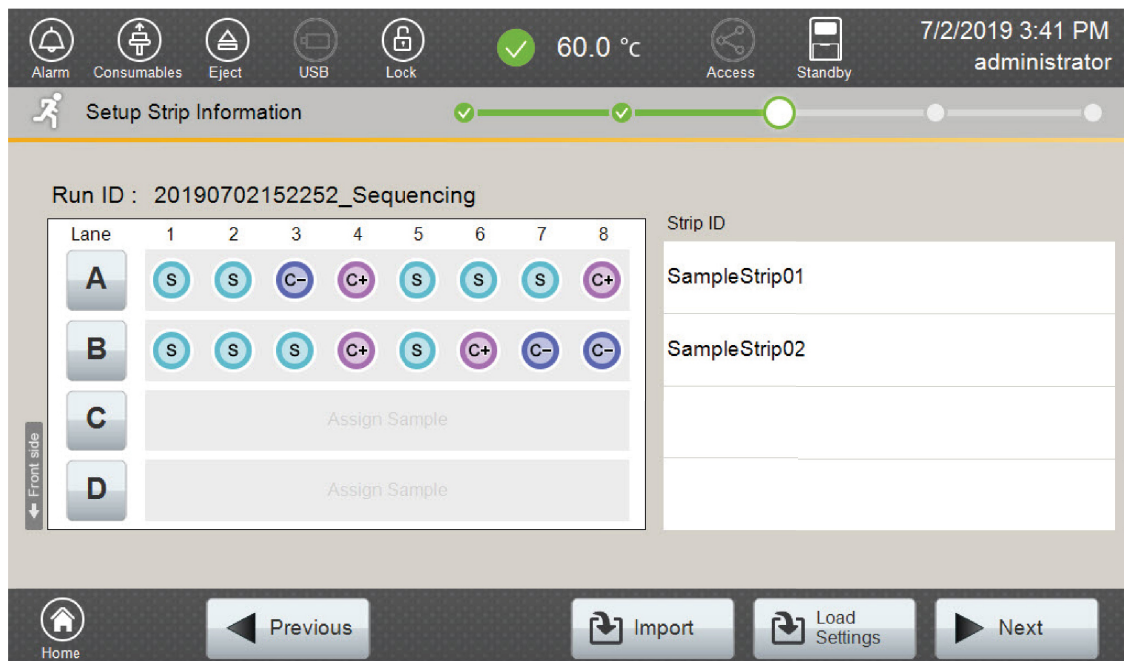

Figure 19. Completed ‘Setup Strip Information’ screen.
13. After all the required lanes have been set up, select **Next** on the ‘Setup Strip Information’ screen to load the sample cartridge (Figure 19).